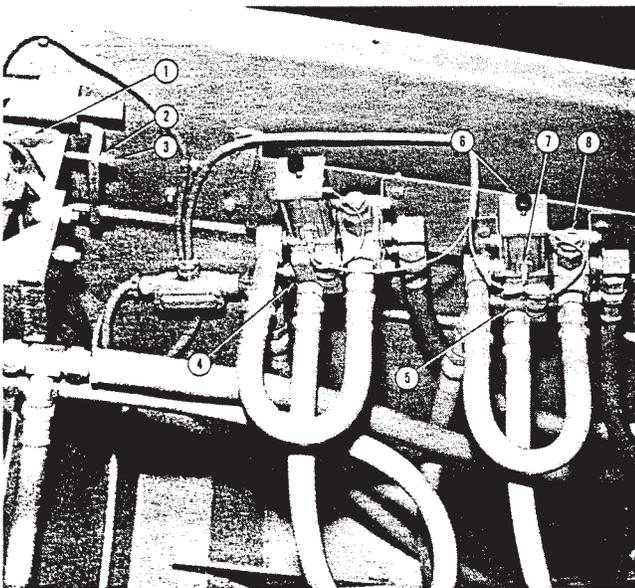

Figure 18
For right hand conveyor. (Figure 18).
1. Conveyor control relief valve adjustment. (Figure 18). Conveyor relief valve adjustments should be made with engine operating at 1500 R.P.M. On units not equipped with tachometer, 1500 R.P.M. can be obtained by placing throttle in full open position and depressing and releasing clutch. This will set engine speed to 1500 R.P.M.